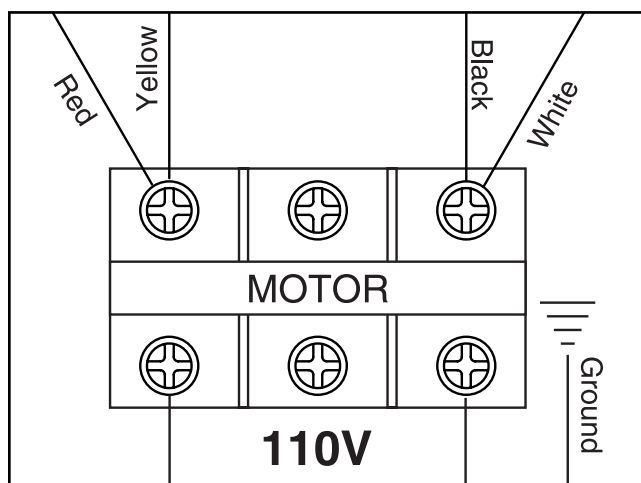
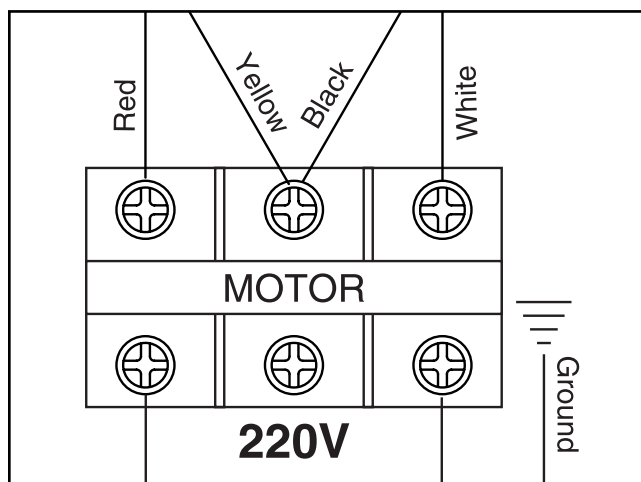

Figure 14. 110V motor wiring schematic.
Figure 15. 220V motor wiring schematic.
3. Make the motor connections in accordance with the wiring schematics that are located on the motor label or those shown below in **Figure 14** or **Figure 15**, depending on which voltage you decide to use.